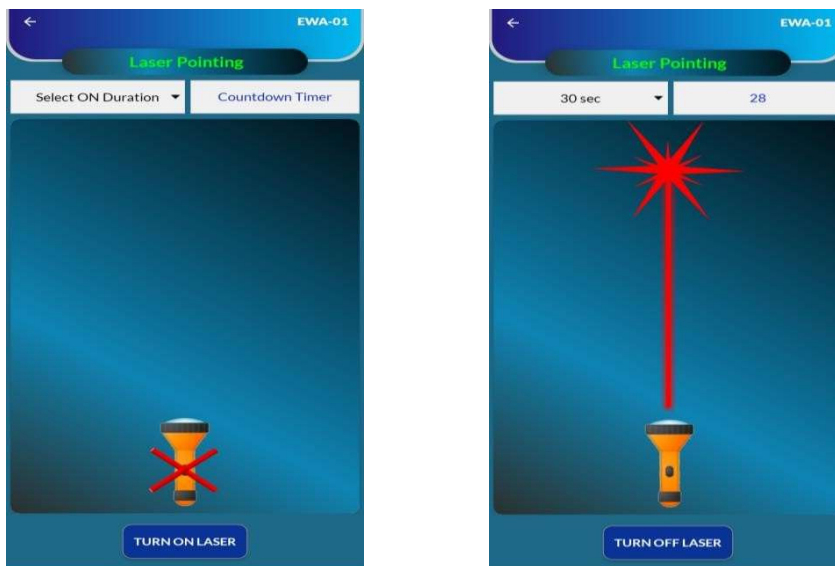

Figure 6-10 Laser Pointing
- Click "Laser pointing" button. Screen as shown in figure 6-10 will appear. Select laser "ON Duration" to set the laser point.
- Press the "VIEW DATA" tab from "Download" screen (figure 6-10 (c)). A window as shown in figure 6-15 (a) will appear.